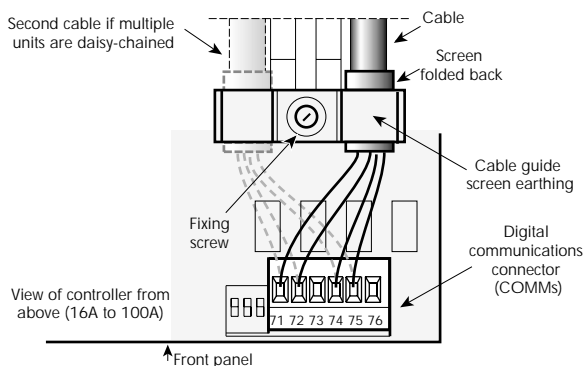

Figure 3-20 Layout of standard communications terminals for 16A to 100A rated units
To facilitate earthing of the communications cable screen, the metal cable guide is bonded directly to the ground of the controller as standard (see Figures 3-20 and 3-21).
Each cable guide provides for a second cable to be inserted so that daisy-chained connection of multiple units can be supported (shown greyed-out in Figures 3-20 and 3-21).
- from left to right for 16A to 100A rated units (see Figure 3-20)